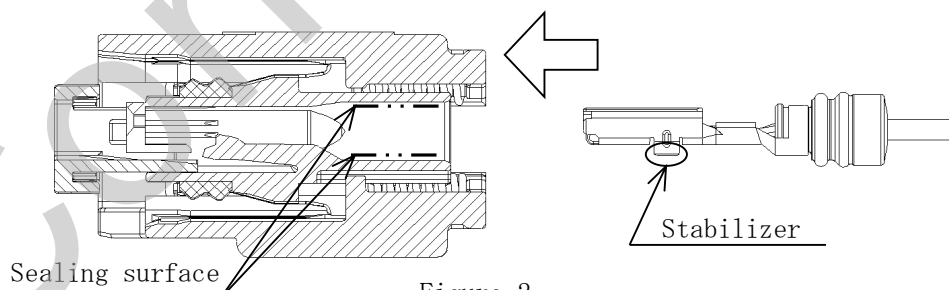

Figure-2
- 3) Orient a terminal and a housing as shown in Figure-2 and insert the terminal in the housing until locking "click" sound can be heard.